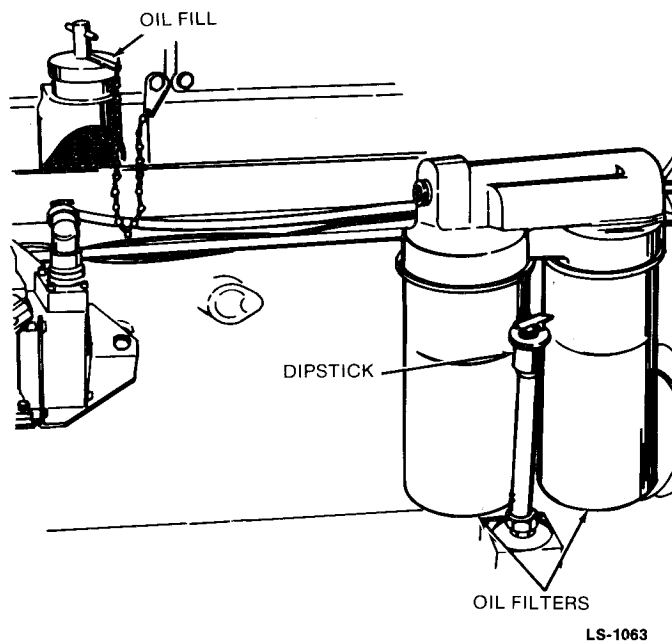

FIGURE 16. ENGINE OIL LEVEL
Check the engine oil level during engine shut-down periods at the intervals specified in the Maintenance Table. The oil dipstick and oil fill are located on the right side of the engine (see Figure 16.). The dipstick is stamped with an H (high) and an L (low) to indicate the level of oil in the crankcase. For accurate readings, shut off the engine and wait approximately 15 minutes before checking the oil level. This allows oil in the upper portion of the engine to drain back into the crankcase.
1. Unscrew the "spin-on" type oil filter and discard (see Figure 16).